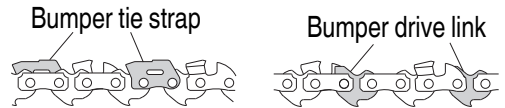

Fig. 36
- Do not sand the top part of the bumper tie strap and bumper drive link, nor cause the shape of said parts to deform. (Fig. 36)